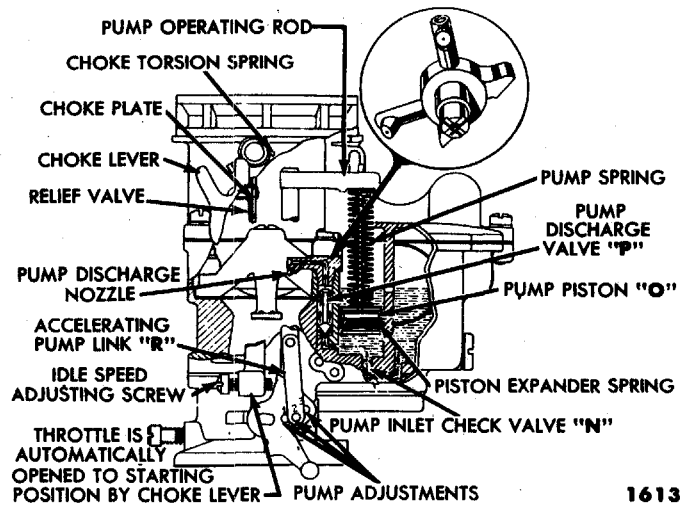

Fig. 34—Accelerating System—8-Cylinder Carburetor
(4) **ACCELERATING SYSTEM.** The accelerating pump illustrated in figs. 34 and 35 is connected directly to the throttle linkage, and its function is to enrich the mixture temporarily for rapid acceleration. The fuel is drawn into the pump chamber, through the pump inlet passage, and the pump inlet ball check valve "N," on the upward stroke of the pump piston "O." When the throttle is opened, the piston moves downward, closing the pump check valve and overcoming the weight of the pump discharge needle valve "P." The accelerating fuel then goes around this valve, and out the pump discharge jet.